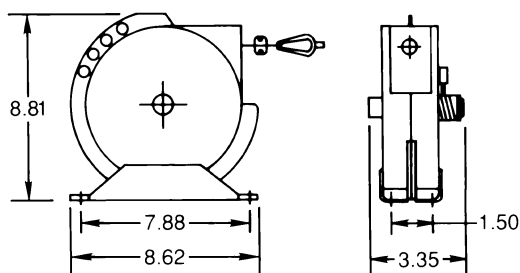

Figure 2
1. Mount reel in desired location using four holes (mounting holes are 3/8" diameter) in mounting base (see Figure 2 for dimensions).